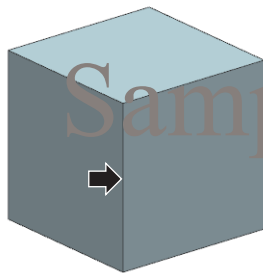
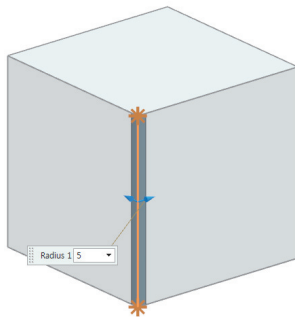

Fig 6-7 A Block
Fig 6-8 Preview of Edge Blend
1. Create a new part file and create a block as shown in Fig 6-7.
4. Select the vertical edge designated by the arrow in Fig 6-7. You can see the preview of the 5 mm radius fillet as shown in Fig 6-8.